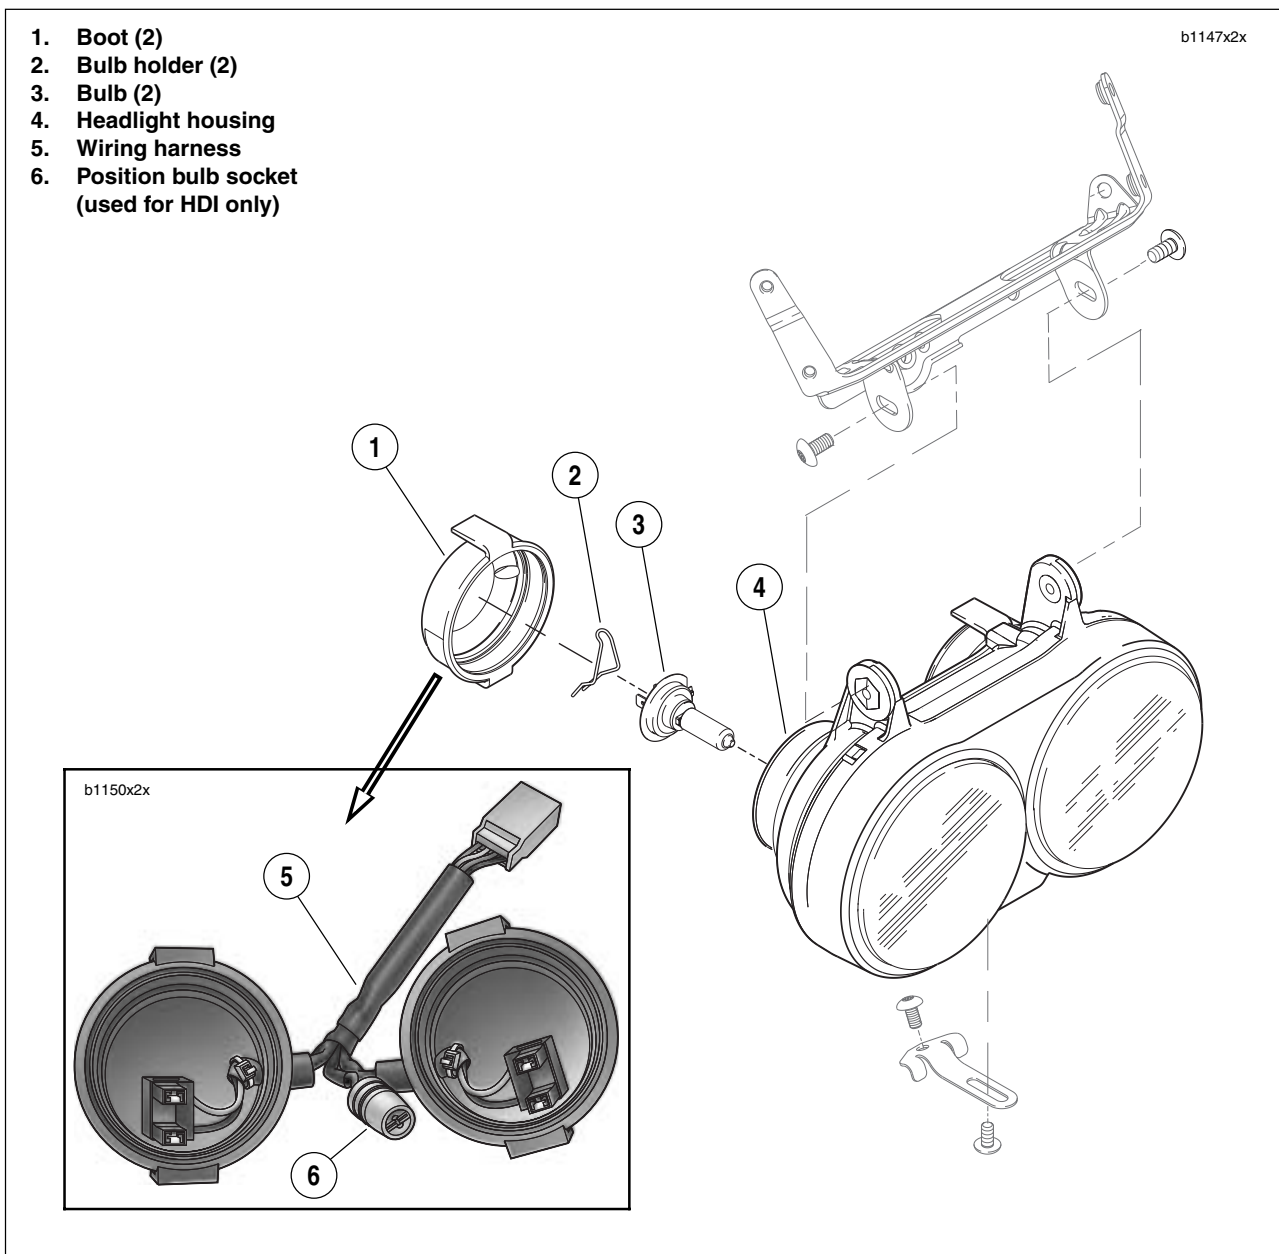

Figure 2-96. Headlight Assembly
1. See Figure 2-96. Remove rubber boots (1) from rear of headlight housing.
2. Disconnect wiring harness (5) from headlight bulbs (3) and remove along with position bulb socket (6).
3. Remove bulb holders (2).
4. Remove headlight bulbs (3) from back of headlight housing (4).
1. See Figure 2-96. Align and install headlight bulbs (3) into back of headlight housing (4).